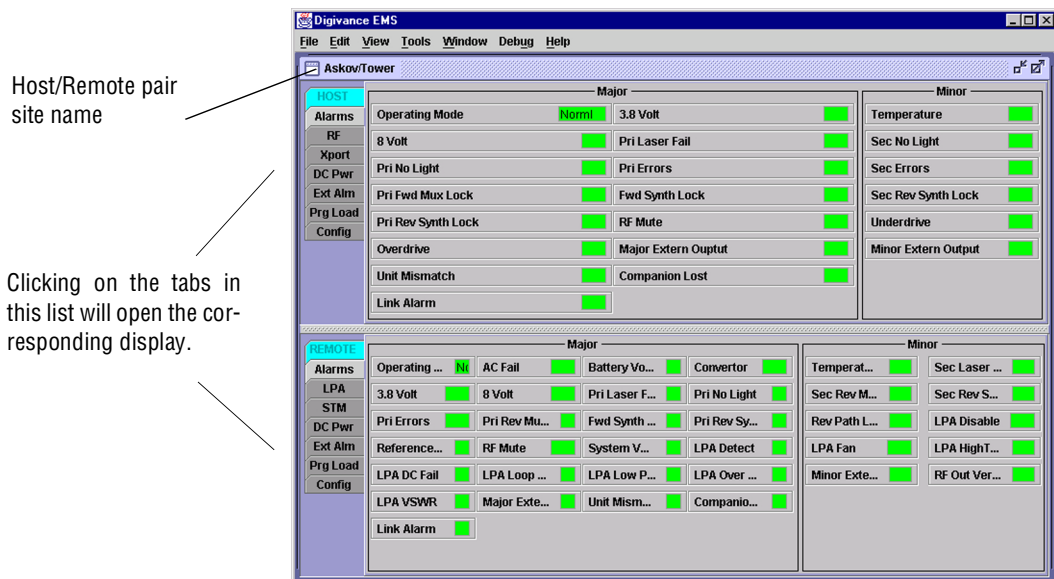

Figure 4-2. Selecting Display Tabs
9. Open the **View** drop down menu and connect to the Host and Remote pair by selecting “NotNamed/NotNamed”. The HOST **Alarms** display and the REMOTE **Alarms** display will open within the main window as shown in Figure 4-2.
11. Click on the **HOST Config** tab and on the **REMOTE Config** tab (see Figure 4-2). The **HOST Config** display and the **REMOTE Config** display will open within the main window.
15. Click on the **HOST RF** tab (see Figure 4-2). The **HOST RF** display will open within the main window.
20. Click on the **REMOTE LPA** tab (see Figure 4-2). The **REMOTE PA** display will open within the main window.
22. Click on the **HOST RF** tab (see Figure 4-2). The **HOST RF** display will open within the main window.